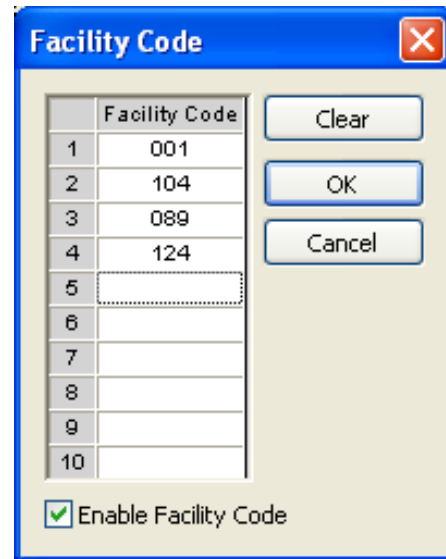

Figure36
1. Click the FACILITY CODE button on the tool bar. The Facility Code window will appear (fig 36).